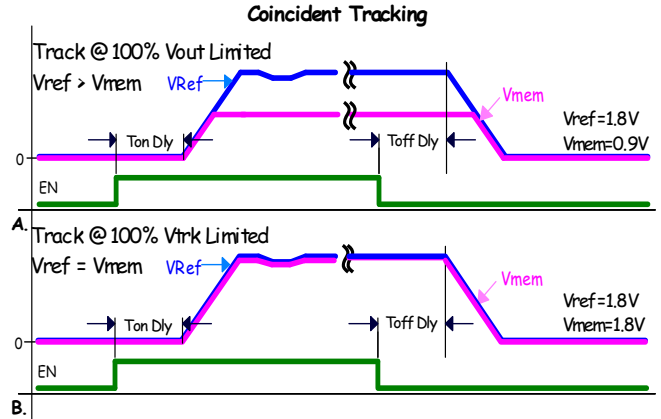

FIGURE 22. COINCIDENT TRACKING
- Track at 100%  $V_{OUT}$  limited. Member rail tracks the reference rail and stops when the member reaches its target voltage Figure 22 (A).
- Track at 100% VTRK limited. Member rail tracks the reference at the instantaneous voltage value applied to the VTRK pin Figure 22 (B).
The configuration settings for Figures 22 and 23 are shown in Tables 11 through 14. In each case the reference and member rise times are set to the same value.
**TABLE 11. TRACKING CONFIGURATION (Figure 22 (A))**
**TABLE 12. TRACKING CONFIGURATION (Figure 22 (B))**